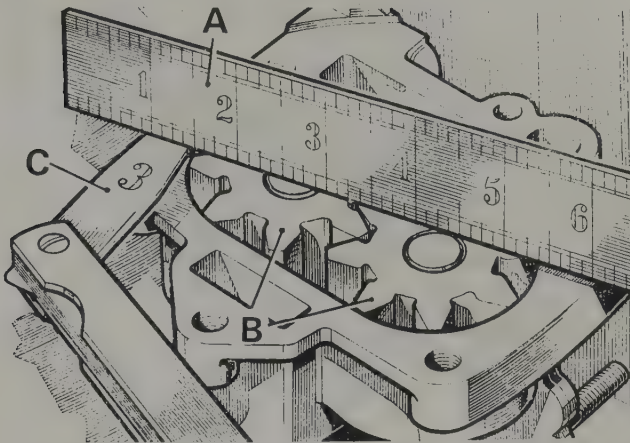

Fig. 1.40. Checking oil pump gears for wear
- 11 With the gears replaced in the pump housing, check the pump gear end float, (Fig. 1.40). Lay a straight edge across the two gear wheels and with a feeler gauge, measure the clearance between the straight edge and the surface of the front cover. The clearance should be between 0.0018 in. and 0.0058 in. (0.05 mm to 0.15 mm). If the measurement shows less than .0018 in. (0.05 mm) then inspect the front cover recess for signs of wear.